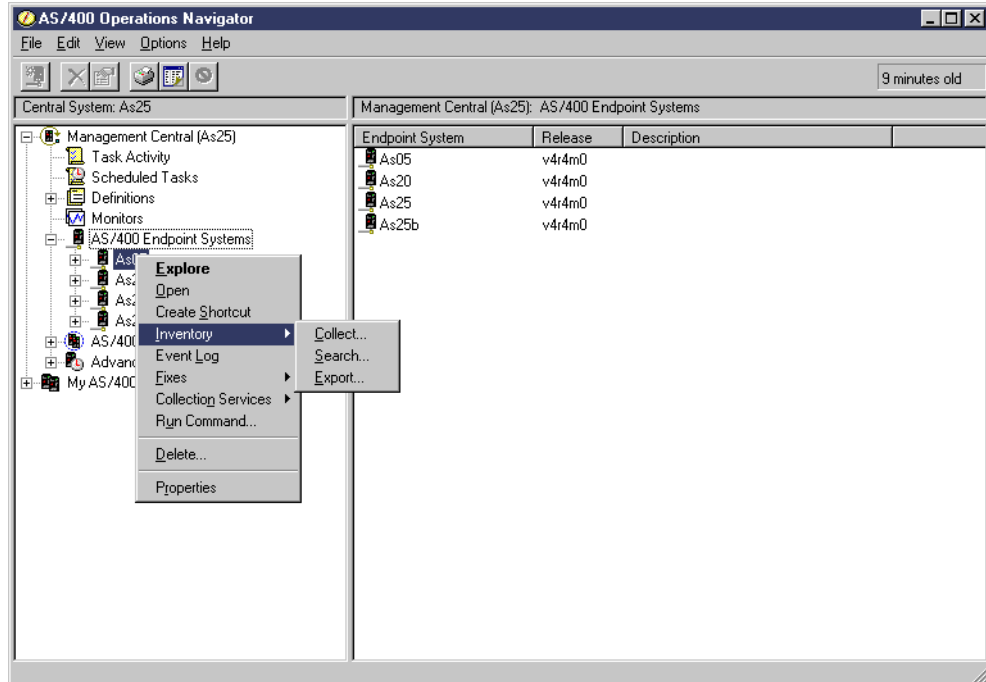

Figure 62. Selecting inventory collection
3. Right-click a system or a group and select **Inventory->Collect**. See Figure 62 on page 88 for an example.
Ensure that you run the collection before you try to view the inventory list. If inventory has not been collected, no inventory information is available. There will be a message above the blank inventory panel with the status of "Last Collected: never". Otherwise, the status will display the last collection date and time or the amount of time that has passed since the last collection (9 minutes old), as shown in Figure 62.